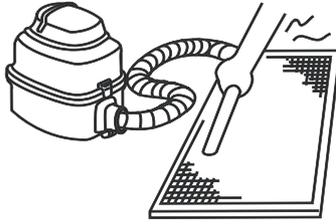

Figure 14.3
- a. The air intake side should face up when using a vacuum cleaner. (Refer to Fig.14.3)